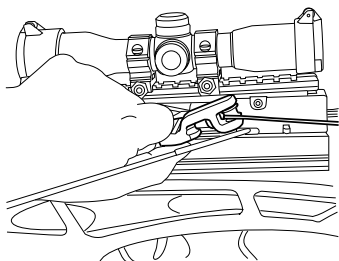

Figure 19
- 4.7 While applying slight pressure on the crank handle, disengage (pull) the pawl to release the rope guide. While holding the pawl depressed, reverse the crank handle several turns. Rotate the rope guide upward to remove from the crossbow string (See Figure 19).